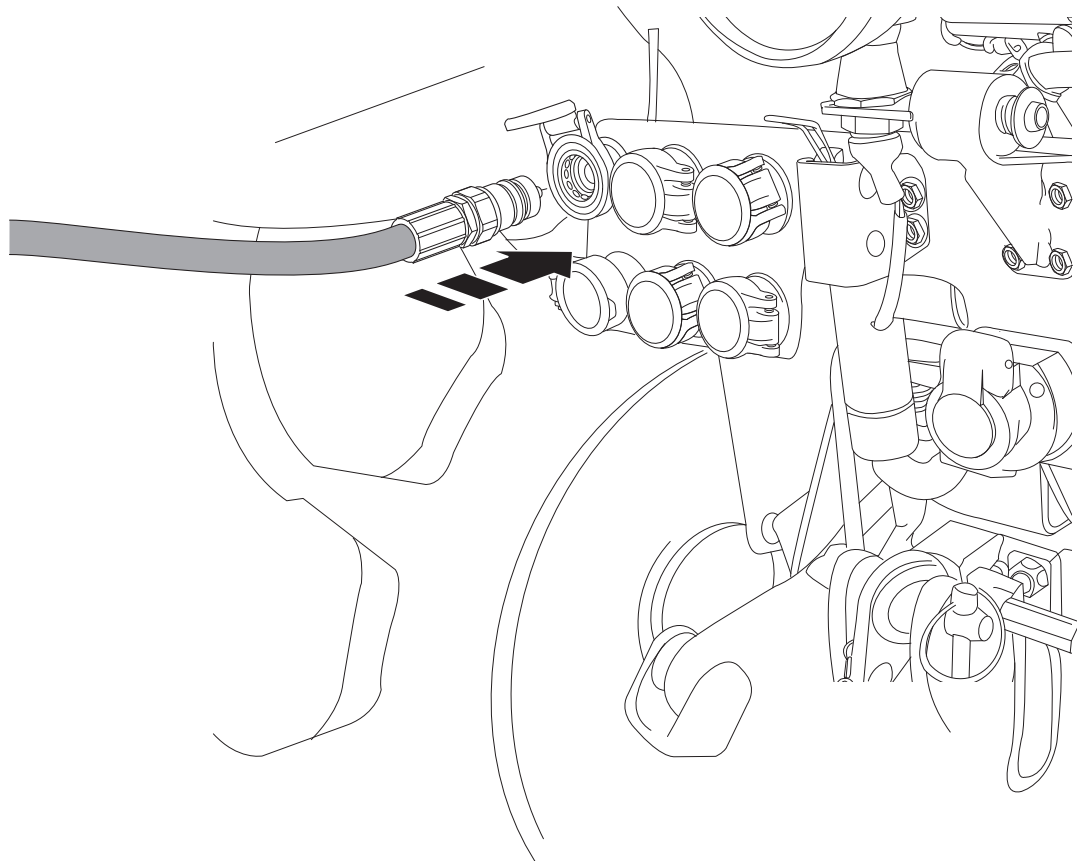

Fig. 7
- Connect the upper point (C), securing it with the appropriate pins and split pins, and use the tie-rod to adjust correctly, making sure that the upper surface of the Mulcher is parallel to the ground. This is very important in order to obtain parallelism between the cutter power take-off shaft axle and the tractor power take-off. Operating in these conditions means limiting the stresses on the power take-off and prolonging the duration of the Cardan shaft and the Mulcher itself.
- If the machine is provided with lateral hydraulic displacement (optional), connect the two hydraulic hoses of the Mulcher to the special connections on the tractor (Fig. 7).